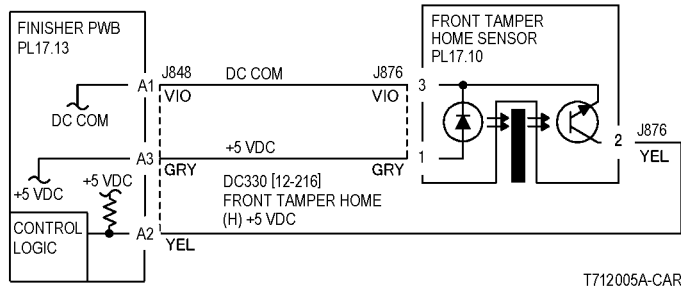

Figure 2 Front Tamper Home Sensor CD
- Ensure that the connectors shown in the circuit diagrams (Figure 2, Figure 3) are securely connected and that the wires are not damaged.